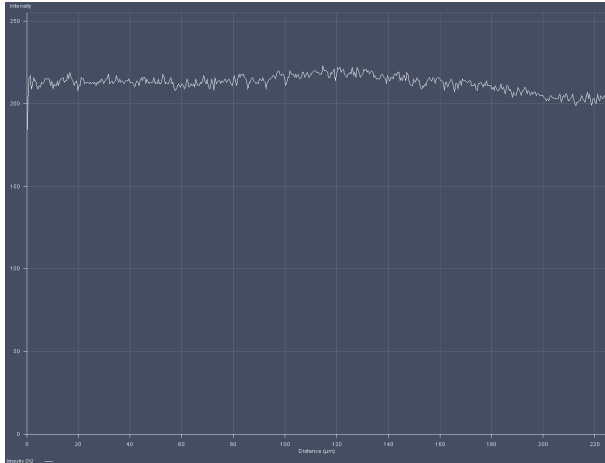

Fig. 20 Line diagram at lower cover slip surface
- Continue cautiously moving upwards. The line position will reach its maximum (Fig. 20).